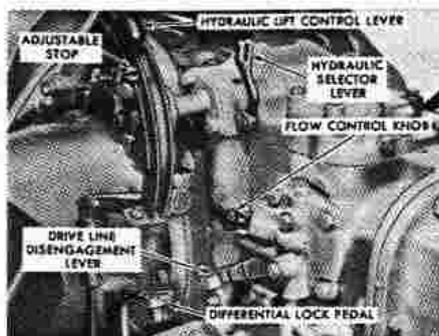

Fig. 228-View showing location of drive line (shaft) disengagement lever on model 4000; lever on models 2000 and 3000 is in similar location.
**232. TRACTION COUPLING.** All tractors equipped with a "Select-O-Speed" transmission have a traction coupling sleeve which can be shifted to disengage the transmission output shaft from the differential pinion. The traction coupling shift lever is located as shown in Fig. 228 for 2000, 3000 and 4000 models. Move lever up on models 2000, 3000 and 4000 to disengage the traction coupling.